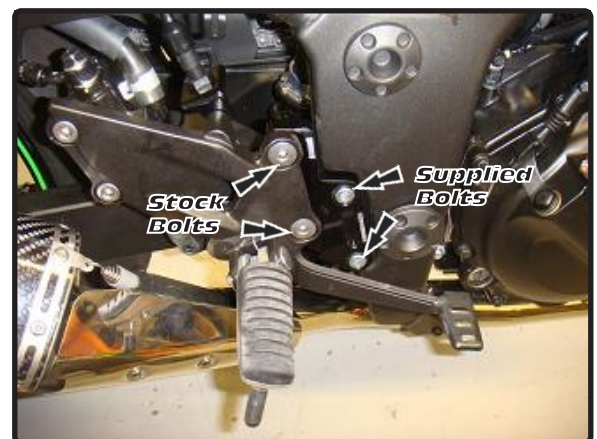

Fig. 2
5. Clean stock bolts and apply a medium strength thread lock (included) to stock and supplied bolts. See parts diagram to install Yoshimura right rearset bracket to frame using supplied bolts and washer. Install stock rearset onto desired position (See Fig. 2). See chart on front page for positions available.